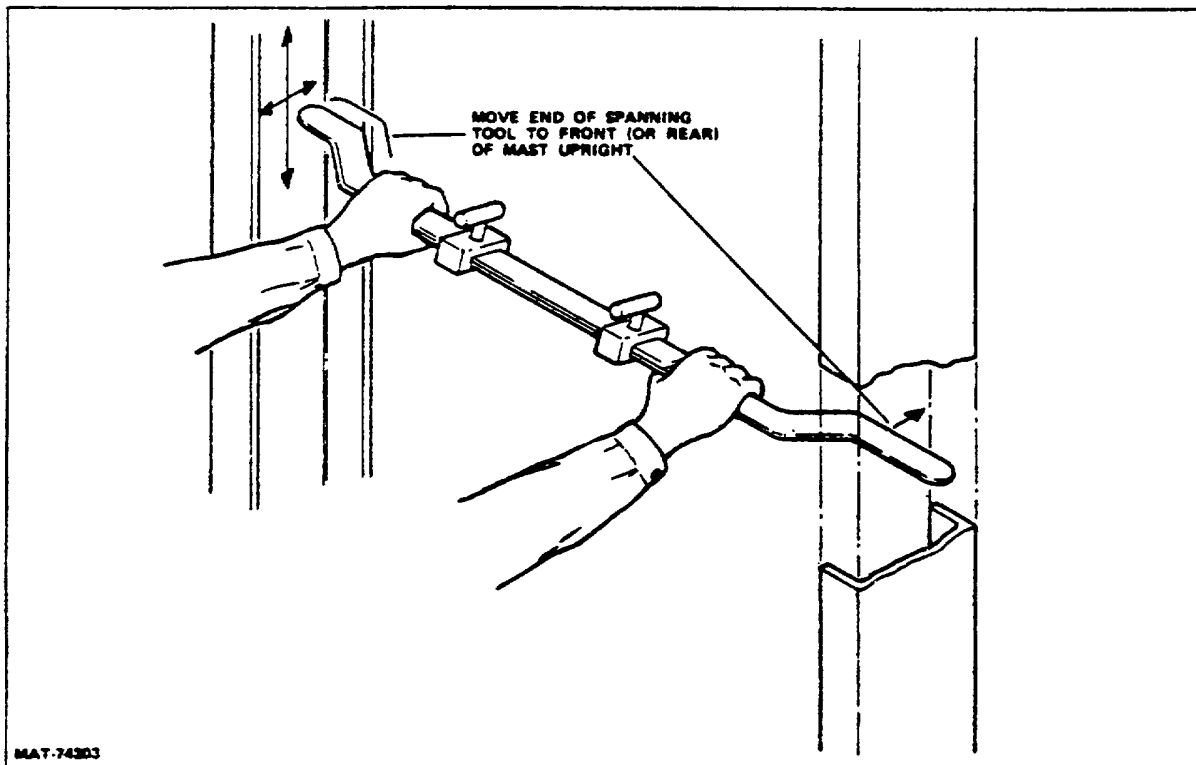
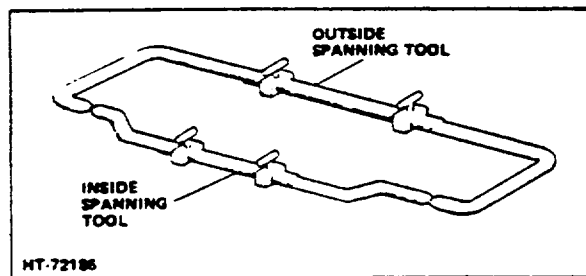

Figure 1-2. Spanning Outer Mast Uprights
Figure 1-3. Setting Outside Spanning Tool
5. (PIVOT PIN TYPE) Remove lockwires, capscrews, and lockwashers (Fig 1-2) which retain pivot pins to mast assembly. Raise overhead hoist high enough to relieve pressure on the pivot pins and remove pins. Use hoist to lay mast on suitable supports.
1. Outer Mast Assembly. Use an adjustable inside spanning tool and check the rear inside of the outer mast upright to find narrowest distance between uprights (Fig 1-2). Lock tool in this position. Set an adjustable outside spanning tool to match inside spanning tool. Lock tool in this position (Fig 1-3).